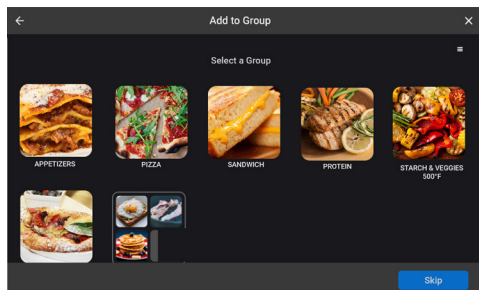

Figure 35: Select Groups to Place Recipe Into
10. Select which group(s) to which the recipe will be added (Figure 35, below).